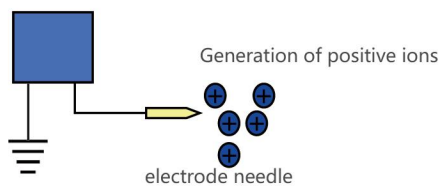
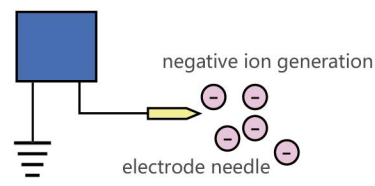

Figure 2
Figure 3
2. The air around the discharge needle is electrically decomposed by the corona discharge, and ions are generated. At this time, a + voltage is added to generate positive ions (Fig. 2), and a – voltage is added to generate negative ions (Fig. 3).